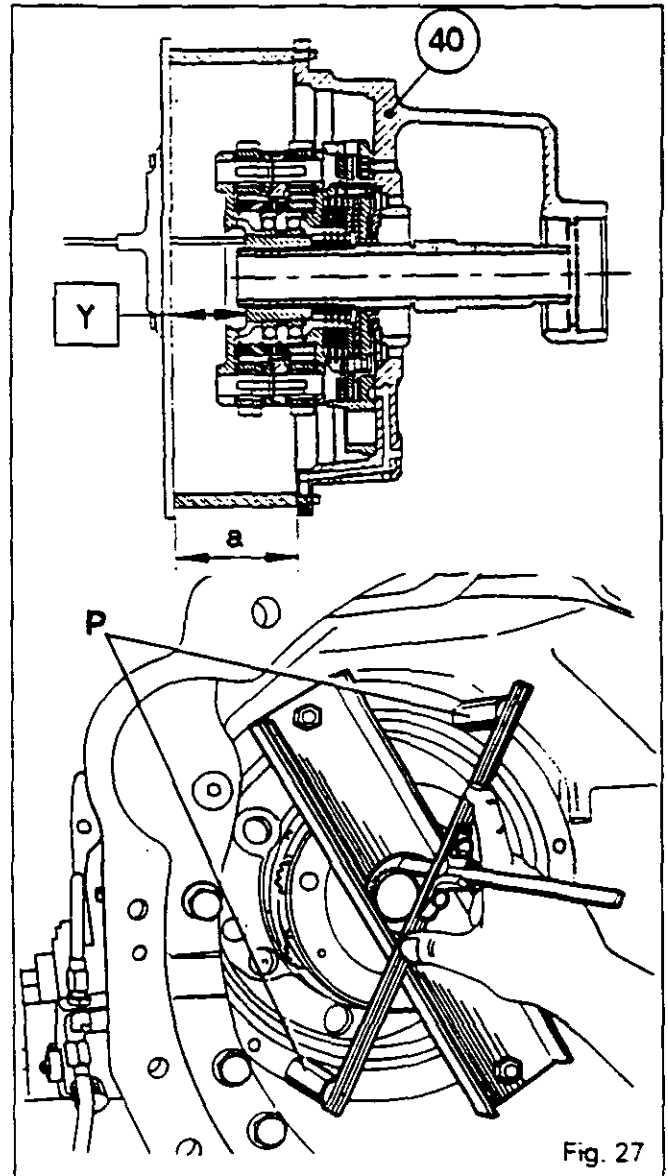

Fig. 27
86. Slide the planetary carrier assembly on the shaft and place it fully home, using a compression tool 3376920 M1 (Fig. 27).
87. Screw the pins **P** (Fig. 27) in contact with the housing. Using depth gauge with an engineer straight edge, measure dimension **Y** (Fig. 27).